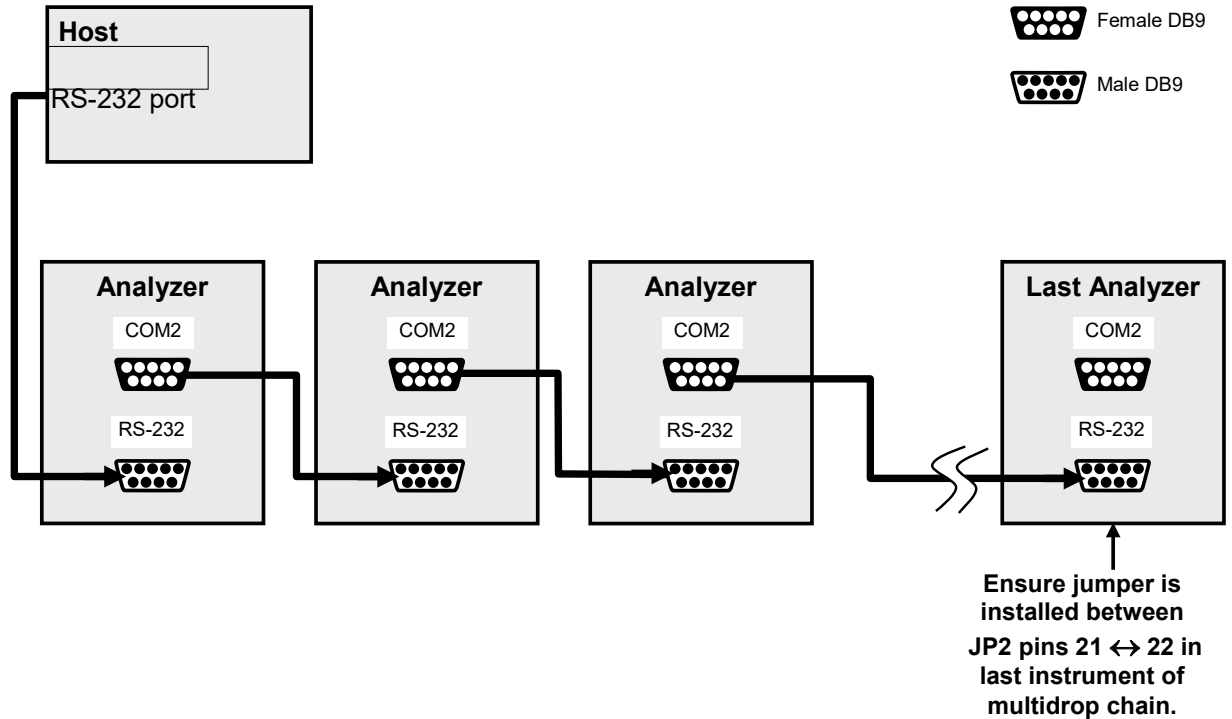

Figure 2-12. RS-232 Multidrop PCA Option Host/Analyzer Interconnect Diagram
5. Referring to Figure 2-12 use straight-through DB9 male → DB9 female cables to interconnect the host RS232 port to the first analyzer's RS232 port; then from the first analyzer's COM2 port to the second analyzer's RS232 port; from the second analyzer's COM2 port to the third analyzer's RS232 port, etc., connecting in this fashion up to eight analyzers, subject to the distance limitations of the RS-232 standard.